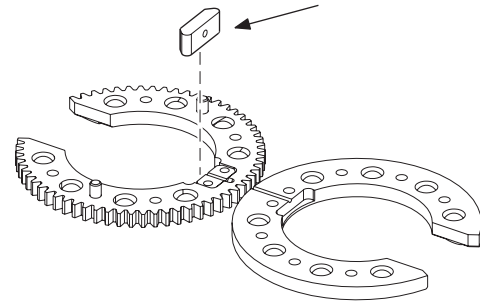

Figure 35 Removing The Ceramic Insert
7. Remove the ceramic insert. See Figure 35.